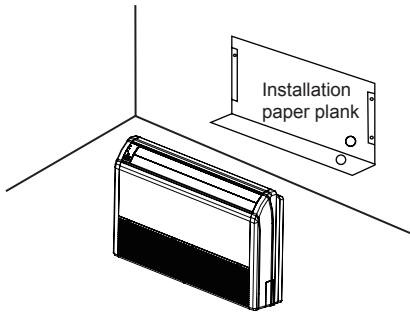
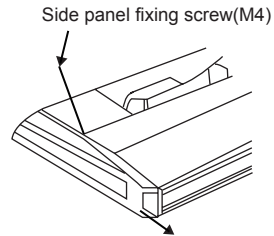

Fig.2
Fig.3
- (1). Determine the mounting position on ceiling or wall by using paper pattern to indicate indoor frame. Mark the pattern and pull out the paper pattern.(Refer to Fig.2)
- (2). Remove the return grill, the side panel and the hanger bracket from the indoor unit as per procedure below.
* Loosen the side panel fixing screw and remove the side panel. (Refer to Fig.3)